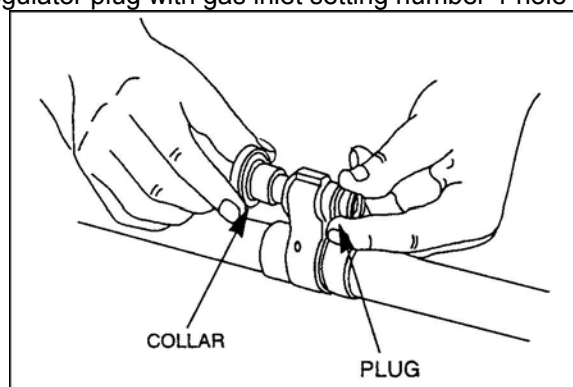

Figure 13. Gas regulator.
- (15) Press in and turn counterclockwise on the gas regulator collar.
- (16) Lift up and remove the collar and the gas regulator from the barrel.
- (17) Pull gas regulator plug from gas hole bushing.
- (18) Check for carbon build up. If it has carbon build up, clean as prescribed in TM 9-1005-313-10.
- (19) Place gas regulator plug with gas inlet setting number 1 hole facing the barrel (Figure 13).